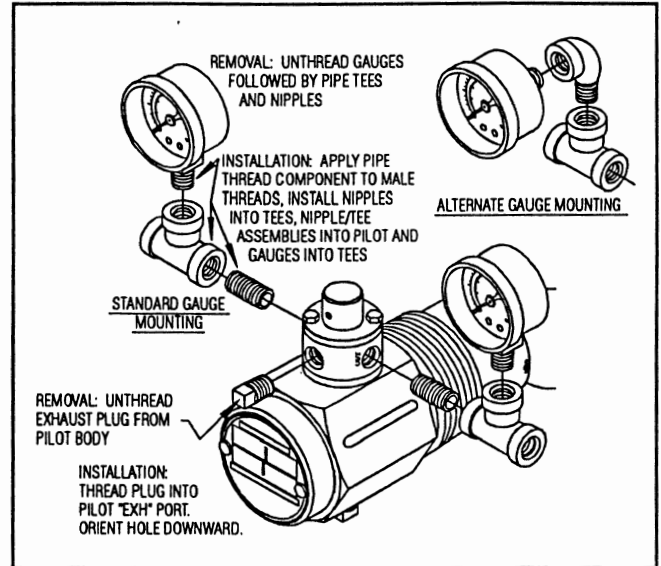

Figure 30. Pilot Gauge and Fittings removal/installation
- As shown in Figure 30, unthread Item 4 lower mount gauges (if standard Gauge Mounting) or Item 4A Center Back Mount Gauges and Item 50 Street Elbows (if Alternate Gauge Mounting) from Item 5 Pipe tees. Unthread Pipe tees and Item 33 Pipe Nipples from Item 10 Pilot Body. Unthread Item 20 Exhaust Plug from Pilot Body Port marked "EXH".